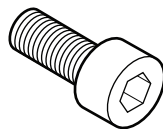

Fig. 7
- 10 The machine screw shown in Fig. 7 is tightened by means of an allen key. Give **two** benefits of using an allen key to tighten the machine screw.